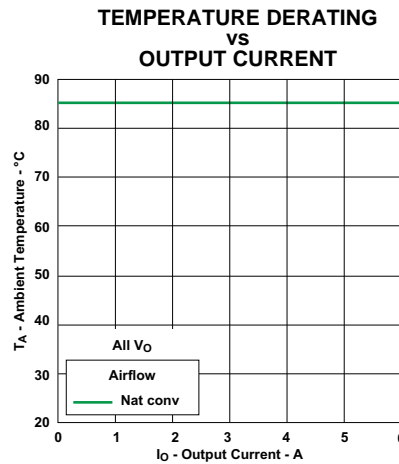

Figure 10.
- (2) The temperature derating curves represent the conditions at which internal components are at or below the manufacturer's maximum operating temperatures. Derating limits apply to modules soldered directly to a 100 mm x 100 mm double-sided PCB with 1 oz. copper. Applies to Figure 10.